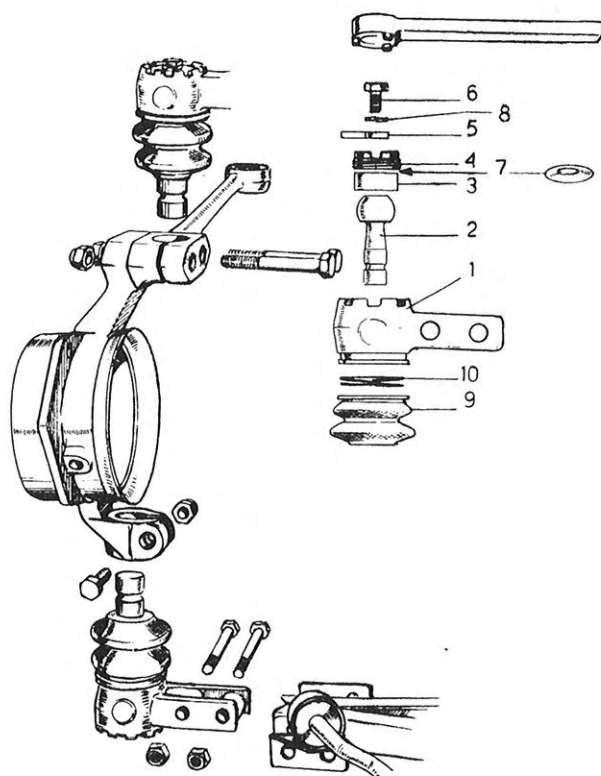

Fig. 21. Attachment of steering knuckle housing and dismantled ball joint
1. After disconnecting ball joint from spring arm and steering knuckle housing, remove rubber bellows 9, see Fig. 21.
2. Place pivot 2, cup 3 and spring washer 7 (the latter only in lower ball joints) in the ball joint body 1., Fig. 21.